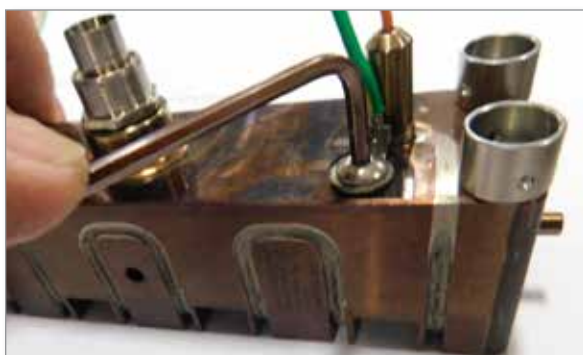

Figure 5-91 Secure the ground wire
2. Secure the ground wire with the retaining screw. See Figure 5-91.